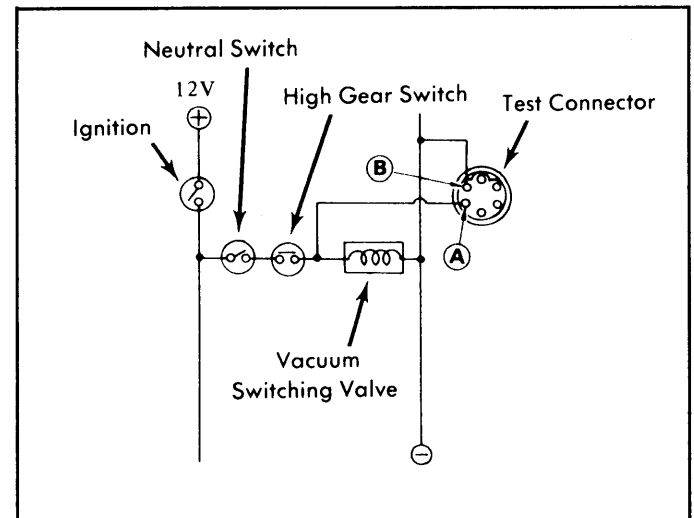

Fig. 3: 1975-78 B210, 610 & 710 TCS Electrical Circuit
8) Turn ignition on and check voltage across terminals "A" and "B". See Figs. 3 and 4. On B210, 610 and 710, reading should be zero (0) volts in high gear and Neutral, 12 volts in 3rd gear positions. On 280Z, reading should be zero (0) volts in high gear, 12 volts in all other gear positions.